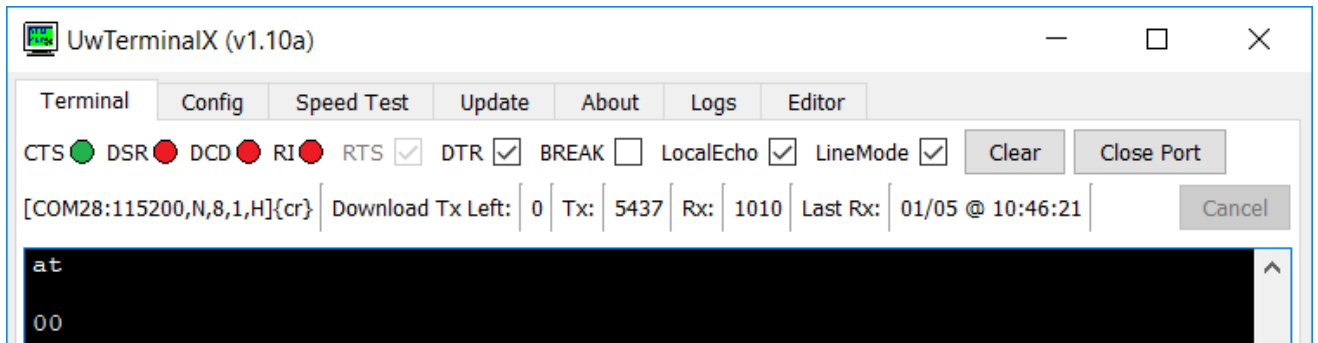

Figure 2: Communications OK
5. Configure the COM port with the port number seen in the device manager with the following settings (Figure 2):
6. Confirm that you can communicate with the development board by typing *at* followed by a carriage return. The module should respond with *00* (Figure 2).